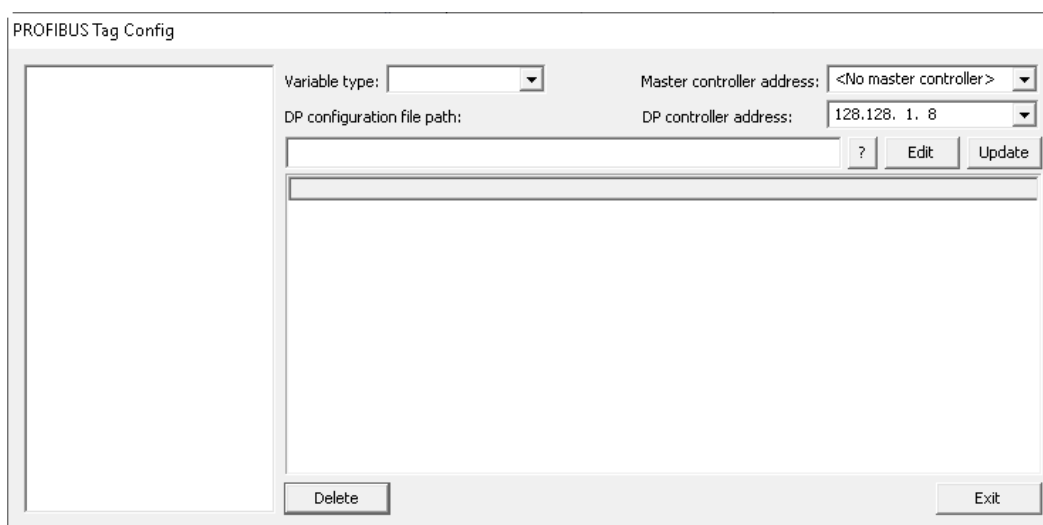

Figure 4-30 PROFIBUS Tag Edit Interface
1. Select PROFIBUS-DP master interface module (address is 128.128.1.8), and select “Overall Information/ Configure DP” to popup dialog box as shown in Figure 4-30.